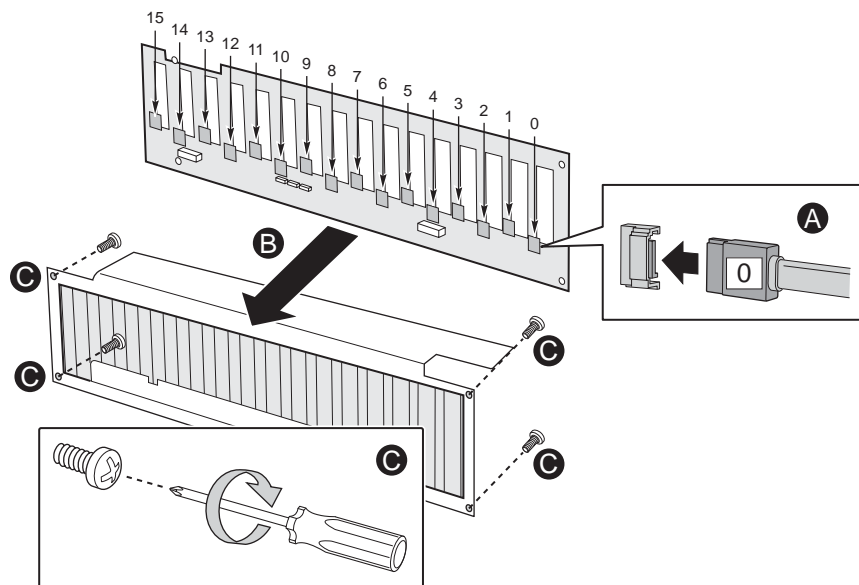

Figure 12. Installing New Backplane Board into Metal Shroud
- B. Carefully insert the new backplane board into the metal shroud. Pay attention to sharp edges on the backplane board and metal shroud. See Figure 12.
- C. Using a Number 1 size Phillips Screwdriver, screw in the two Phillips screws on each side of the backplane board that hold the backplane board in its metal shroud. See Figure 12.